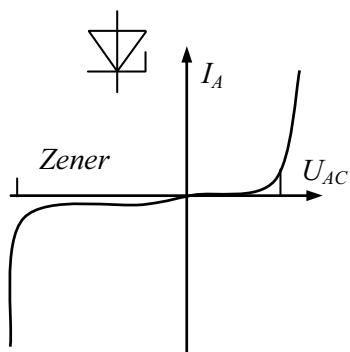

Fig. 1.12
**Zener diode.** A *Zener diode* sometimes called *breakdown diode* or *stabilitrone*, is designed to operate in the reverse breakdown, or *Zener*, region, beyond the peak inverse voltage rating of normal diodes. This reverse breakdown voltage is called the *Zener*, or *reference voltage*, which can range between –2,4 V and –200 V (Fig. 1.12). The Zener effect causes a “soft”